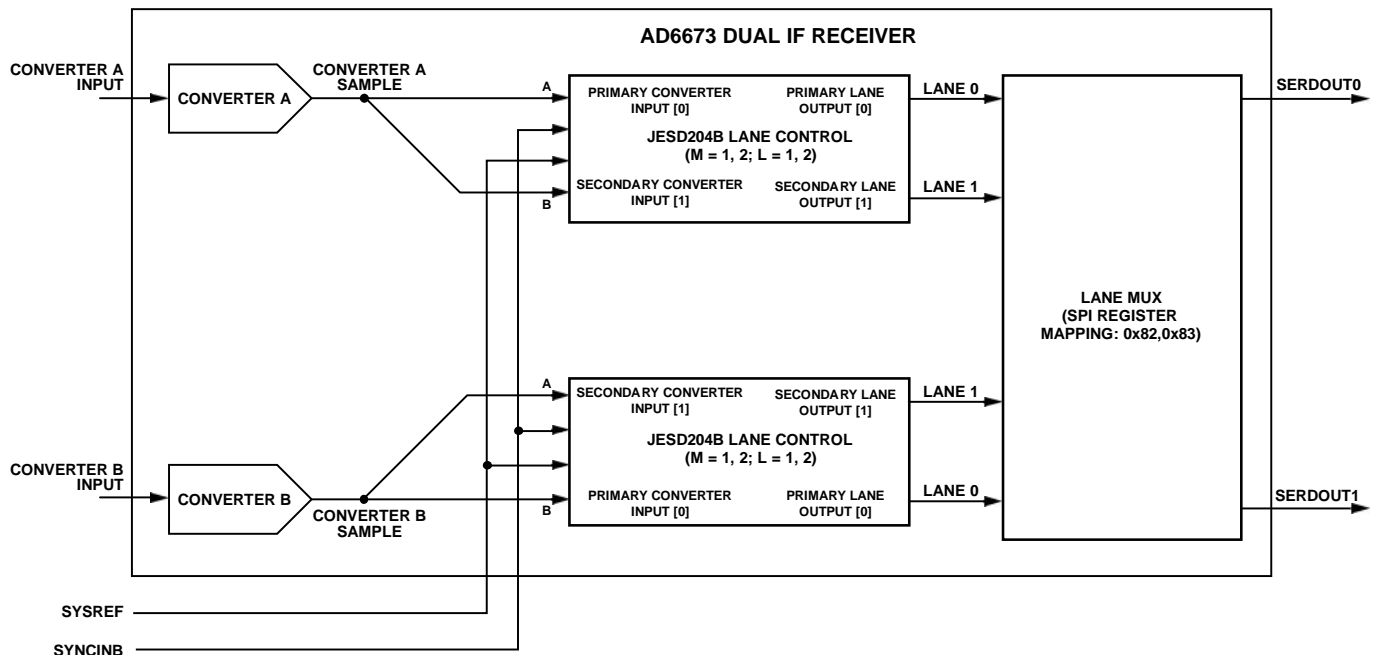

Figure 48. AD6673 Transmit Link Simplified Block Diagram
- Option to remap converter and lane assignments, Register 0x82 and Register 0x83. See Figure 48 for simplified block diagram.